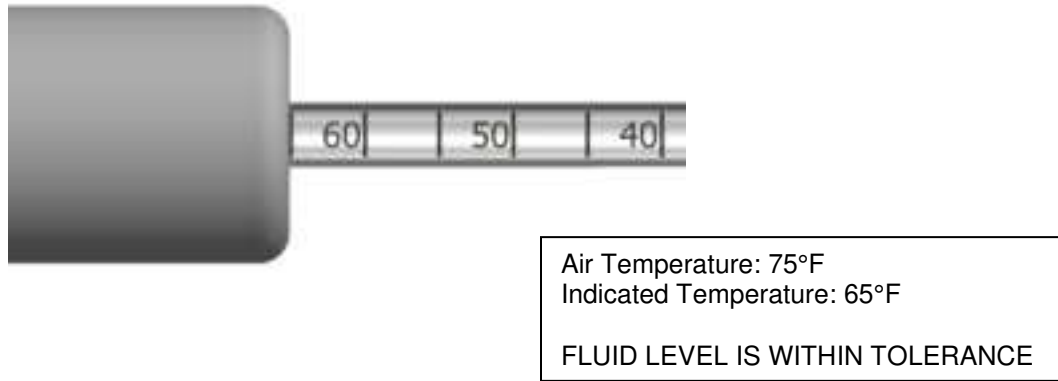

Figure 4: Fluid Check Example (Fluid Level within Tolerance)
- 4) If the reading on the tool is within 15°F of the ambient air temperature, the fluid level in the shimmy dampener is within tolerance (See Figure 4). Reinstall the shimmy dampener per the Cessna/Textron Model Service Manual.